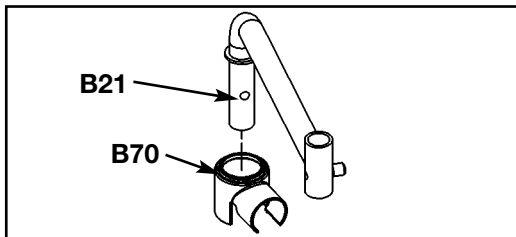

Figure 11A
**6. Install left and right pivot handles** (see steps 6A - 6F, Figures 11A - 13).
- B.** Slide pivot guard (#B70) onto (user position) right pivot handle (#B21). See Figure 11A.